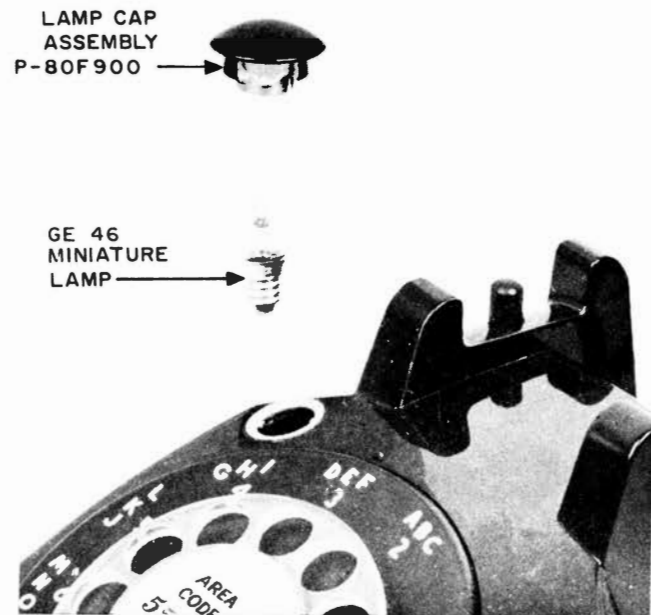

Fig. 34 — 500H, PR, UR, or 501PR, UR Set, Lamp Assembly
4.11 On dial illuminated sets, the lamp screws into the lamp socket and the lamp cap fits into a bayonet socket (see Fig. 34).